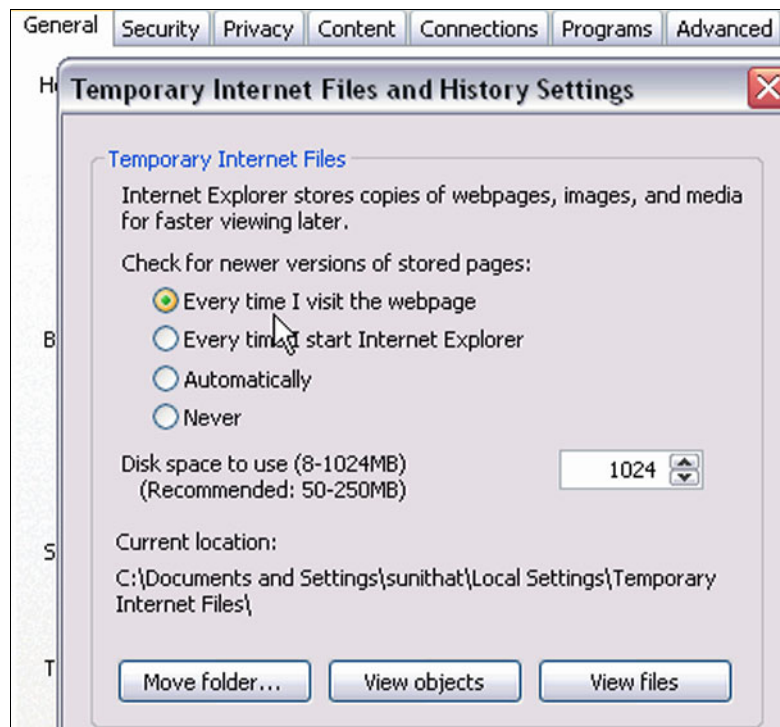

Figure 3-1 Temporary Internet Files and history Settings
3. Click **Every time I visit the webpage** under “Check for newer versions of stored pages,” as shown in Figure 3-1.